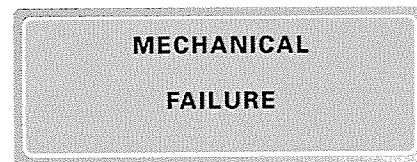

Figure 4
2. After a brief startup delay, the screen in fig. 4 should appear.